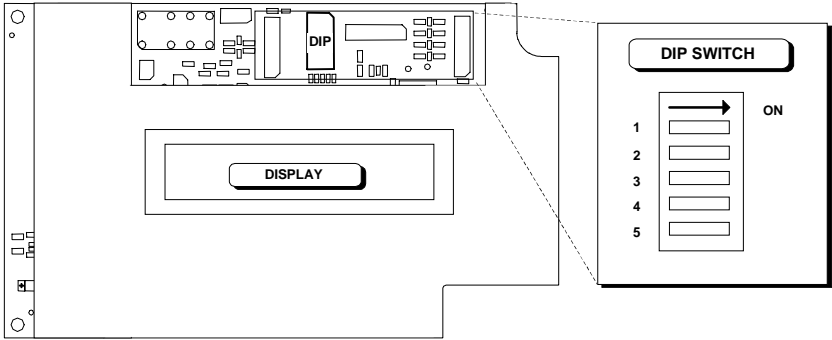

Figure 2.4 - DS8100 Multidrop Address selection
- 2. Position the switches as desired, referring to Figure 2.4.